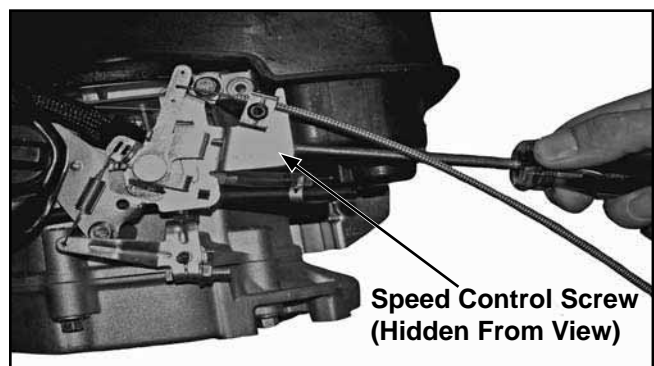

Figure 5-6. Speed Control Screw.
1. Turn the high-speed adjustment screw clockwise to decrease engine speed and counterclockwise to increase RPMs. See Figure 5-6.